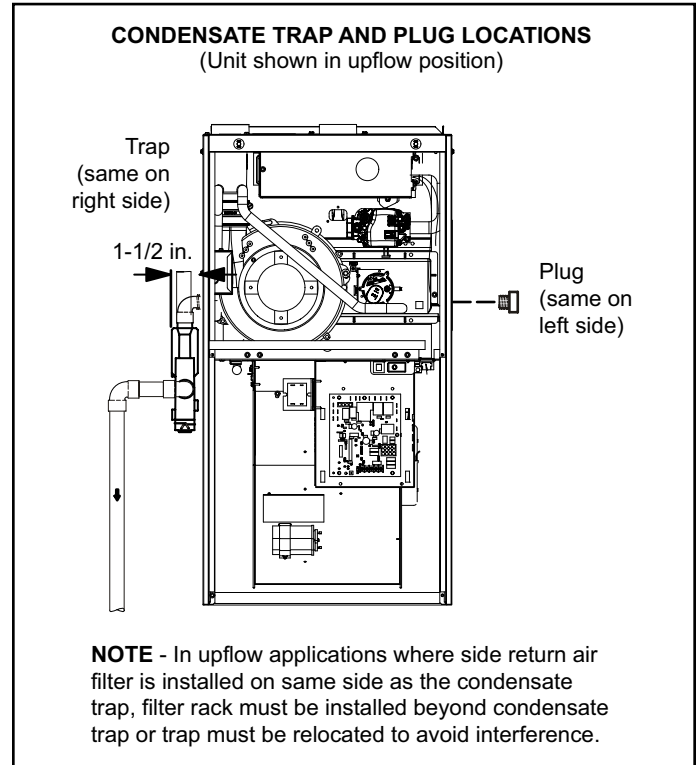

Figure 45.
This unit is designed for either right- or left-side exit of condensate piping in upflow applications. In horizontal applications, the condensate trap must extend below the unit. An 8" service clearance is required for the condensate trap. Refer to Figure 45 and Figure 47 for condensate trap locations. Figure 53 (3/4" drain connection) and Figure 54 (1/2" drain connection) show trap assembly using 1/2" PVC or 3/4" PVC.
2. For furnaces with a 1/2" drain connection use a 3/8 allen wrench and remove plug (Figure 45) from the cold end header box at the appropriate location on the side of the unit. Install field-provided 1/2 NPT male fitting into cold end header box. For furnaces with a 3/4" drain connection use a large flat head screw driver or a 1/2" drive socket extension and remove plug. Install provided 3/4 NPT street elbow fitting into cold end header box. Use Teflon tape or appropriate pipe dope.